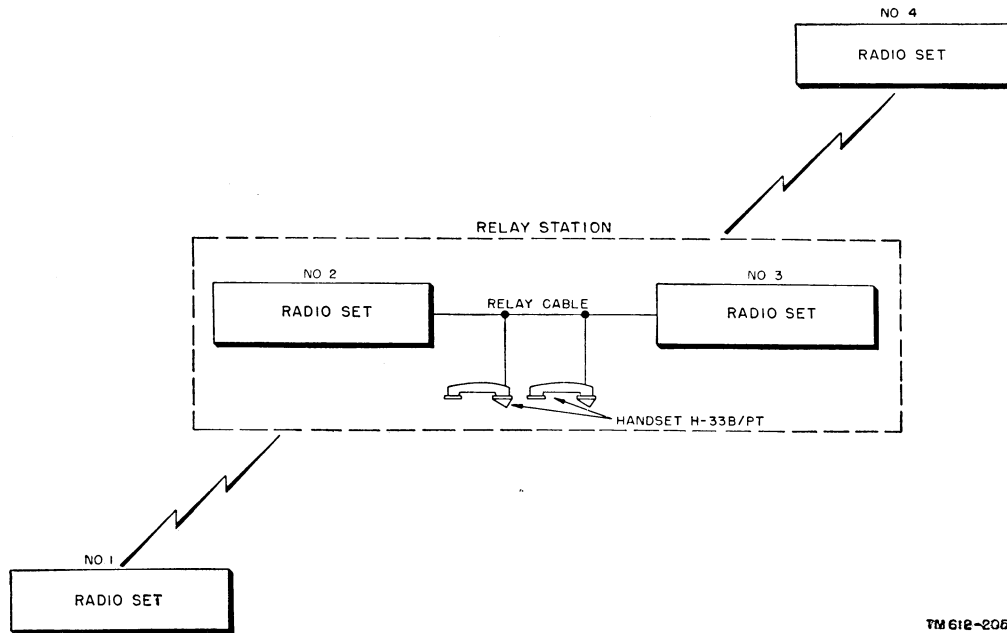

Figure 15. Relay operation, system application.
Figure 15 shows how two radio sets are operated as a relay station. Set No. 2 is tuned to the same frequency as set No. 1, while set No. 3 is tuned to the same frequency as set No. 4. The frequency of sets No. 1 and 2 must differ from the frequency of sets No. 3 and 4 by a few mc. With this arrangement, signals transmitted by set No. 1 are received by set No. 2 and passed through the relay cable to set No. 3, which retransmits the signals to set No. 4. Similarly, signals transmitted by set No. 4 are retransmitted by the relay station to set No. 1.
b. Place set No. 2 in operation (par. 17), using the handset which is near it (fig. 15), and calibrate as described in paragraph 18. Repeat this procedure with set No. 3, except that the frequency to which this set is tuned should be a few mc off that of set No. 2. The two sets can now operate unattended as a relay station.